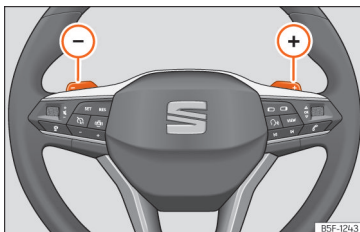

Fig. 91 Steering wheel: automatic gearbox levers
- Press the **+** gear shift paddle to change up a gear **»» Fig. 91**.